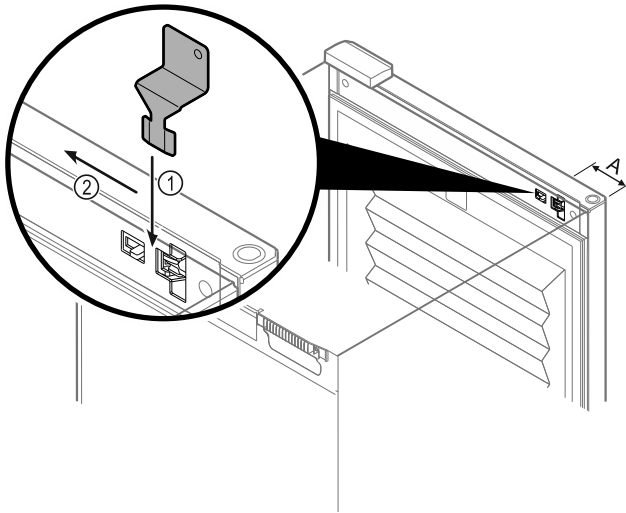

Fig. 133
- ▶ Insert the emergency release key in the specified position Fig. 133 (A)  $\approx$  100 mm.
- ▶ Insert the emergency release key Fig. 133 (1) between the door and the body of the appliance from above to the end stop.
- ▶ Pull the emergency release key towards the hinge. Fig. 133 (2)